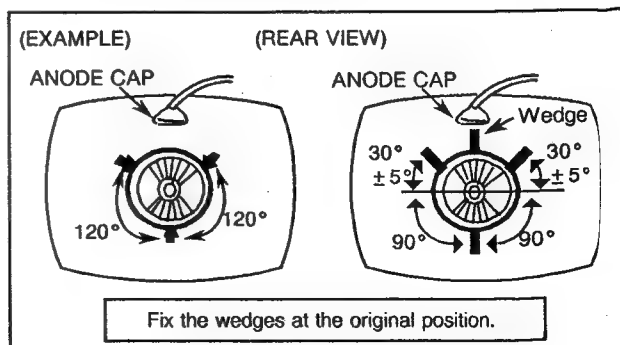

Fig.B-10
9. Insert wedges to the position as shown in Fig. B-10 to obtain the best circumference convergence.